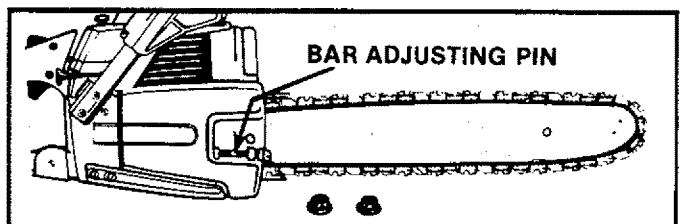

Figure 8
- j. Install the Bar Clamp by sliding the bar clamp over the mounting studs and fitting the bar-adjusting pin into the round hole in the Guide Bar. Figure 8.